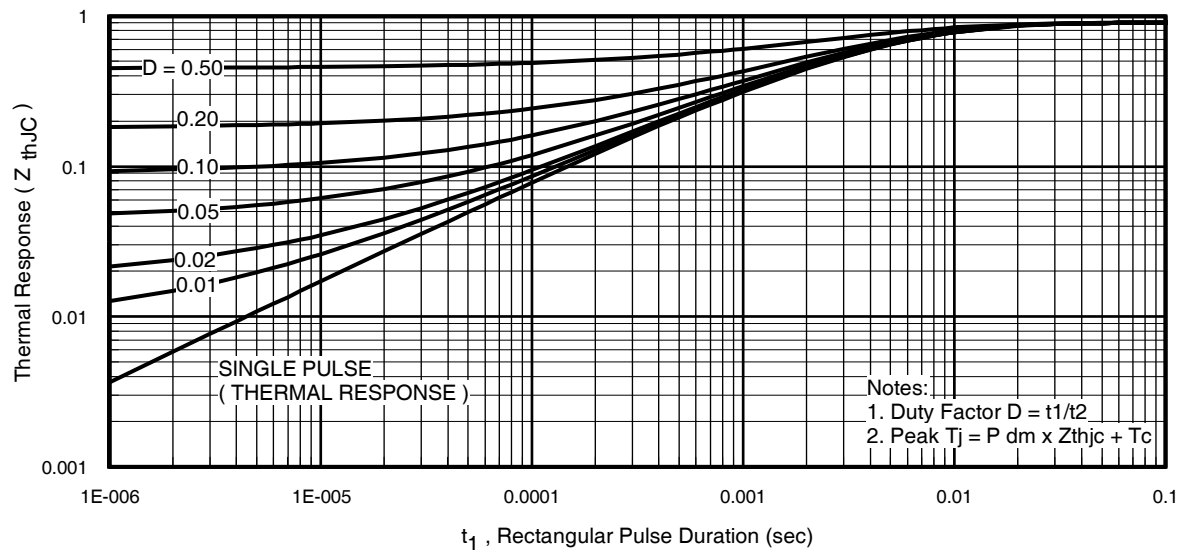

Fig 11. Maximum Effective Transient Thermal Impedance, Junction-to-Case
- ① Repetitive rating; pulse width limited by max. junction temperature. (See fig. 11).
- ② Limited by T_{Jmax} , starting $T_J = 25^\circ\text{C}$, $L = 0.08\text{mH}$
$Z_{thJC}(D, t_{av})$ = Transient thermal resistance, see figure 11)